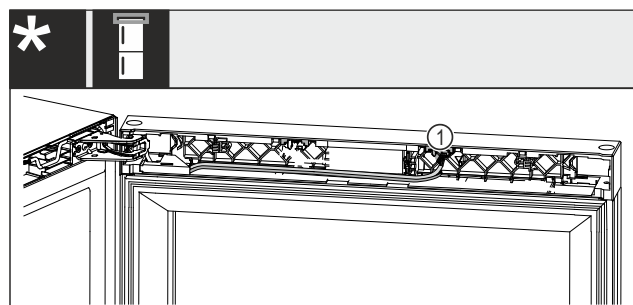

Fig. 19 Wine-freezer combinations
- Pull the plug Fig. 19 (1) out of the retaining clip.